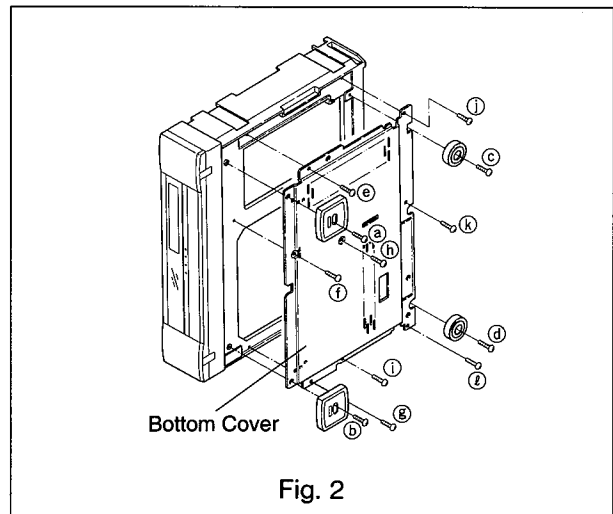

Fig. 2
- A. Remove twelve screws (Ⓐ~Ⓛ) retaining the Bottom Cover as shown in Fig. 2.